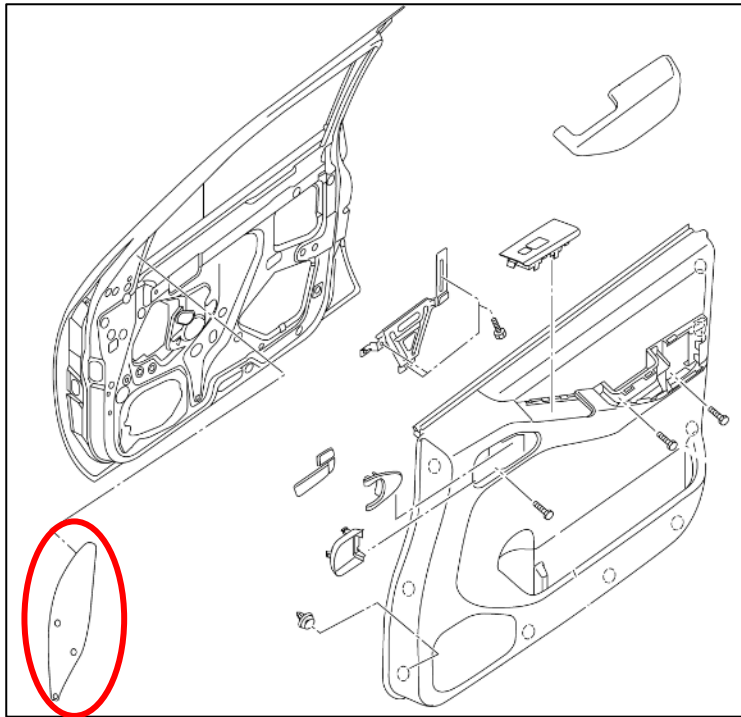

Figure 79
8. Remove the Trim Piece in the corner of the Door with a Trim Removal Tool. *Figure 79.*